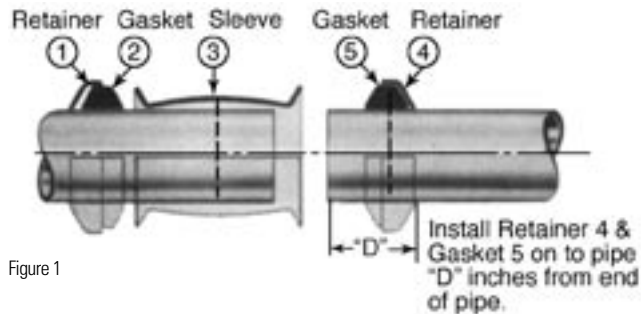

Figure 1
- Install retainer (1), gasket* (2) and sleeve (3) on one side of pipe in sequence shown in Figure 1.
- Install remaining retainer (4) and gasket (5) on other pipe end.
- Position retainer (4) and gasket (5) to proper pipe insertion depth ("D") as shown in Table 1.